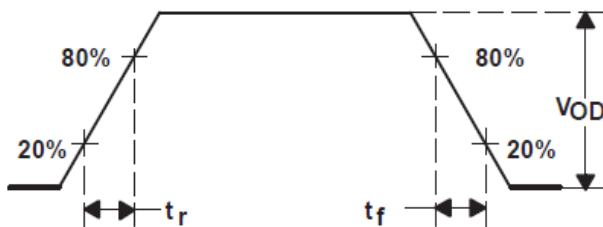

Figure 7. Output Rise and Fall Time
| t R                       | Rise time (2)                                               | Input signal with 30ps rise time. 20% to 80%. See <a href="#">Figure 7</a>                                                                                                               |     | 31                   |     | ps                |
| t F                       | Fall time (2)                                               | Input signal with 30ps fall time. 20% to 80%. See <a href="#">Figure 7</a>                                                                                                               |     | 32                   |     | ps                |